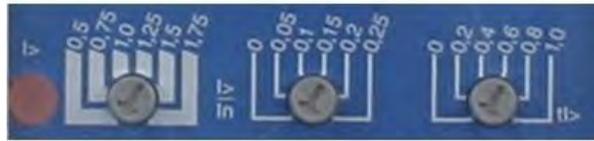

Figure 5:
3. Set overcurrent stage $I >$ on relay XI1-I to **0.5 A**, and all other potentiometers to 0 as shown in Figure 5.